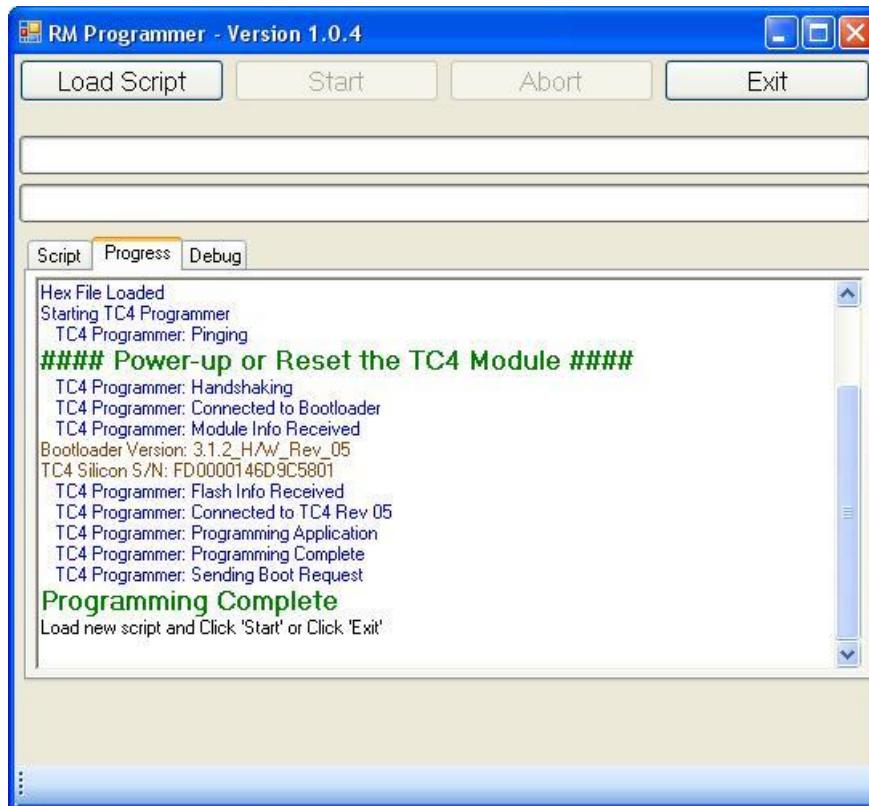

Figure 40: RM Programmer TC4 Application update complete
- 8) The RM Programmer will indicate when the update process is complete and the unit will reset automatically as shown in Figure 40.